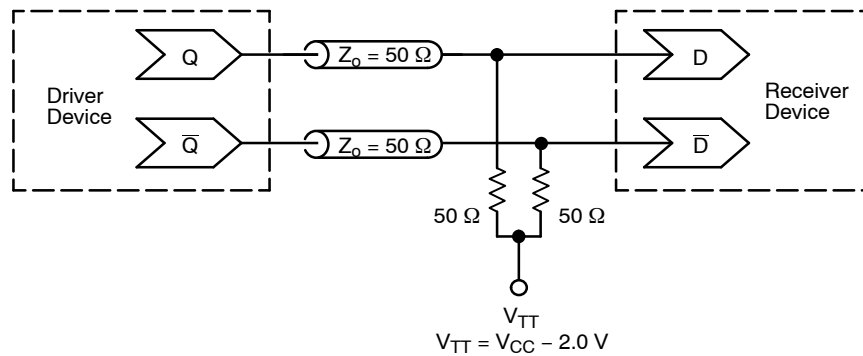

Figure 9. Typical Termination for Output Driver and Device Evaluation
2. All loading with 50  $\Omega$  to  $V_{CC} - 2.0\text{ V}$  (see Figure 9).
2. All loading with  $50\ \Omega$  to  $V_{CC} - 2.0\text{ V}$  (see Figure 9).
1. Measured using a 750 mV source, 50% duty cycle clock source. All loading with 50  $\Omega$  to  $V_{CC} - 2.0\text{ V}$  (see Figure 9).